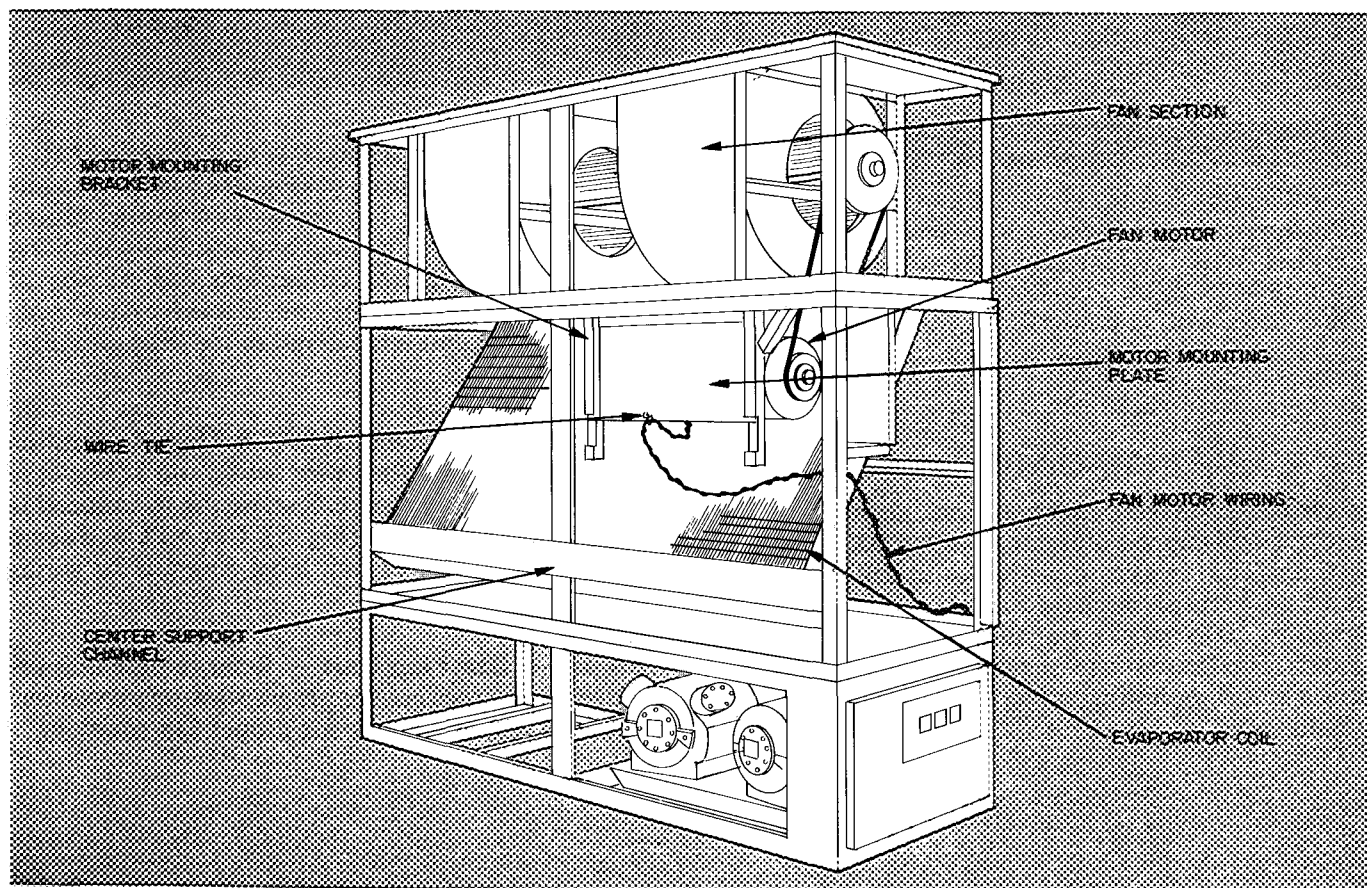

Fig. 2 — Typical 50BJ/BK028,034 Unit — Vertical Discharge
**Step 1 — Check Equipment** — Refer to Fig. 2 and 3 for location of base unit components. Fan motor wiring is shipped coiled on top of evaporator coil. Wire tie locations are shown in Fig. 2, 3 and 4.